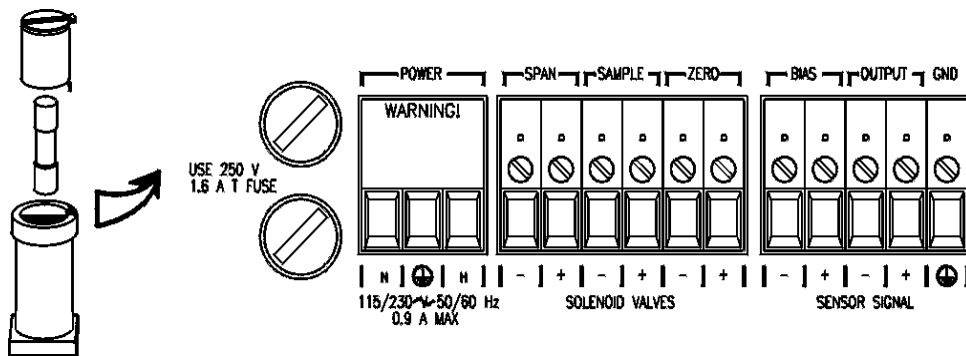

Figure 4-2: Removing Fuse Cap and Fuse from Holder
The 2010A Analysis Unit requires two 5 x 20 mm, 1.6 A, T type (Slow Blow) fuses. The fuses are located inside the explosion proof housing on the Electrical Connector Panel, as shown in Figure 4-2. To replace a fuse:
2. Place a small screwdriver in the notch in the fuse holder cap, push in, and rotate 1/4 turn. The cap will pop out a few millimeters. Pull out the fuse holder cap and fuse, as shown in Figure 4-2.